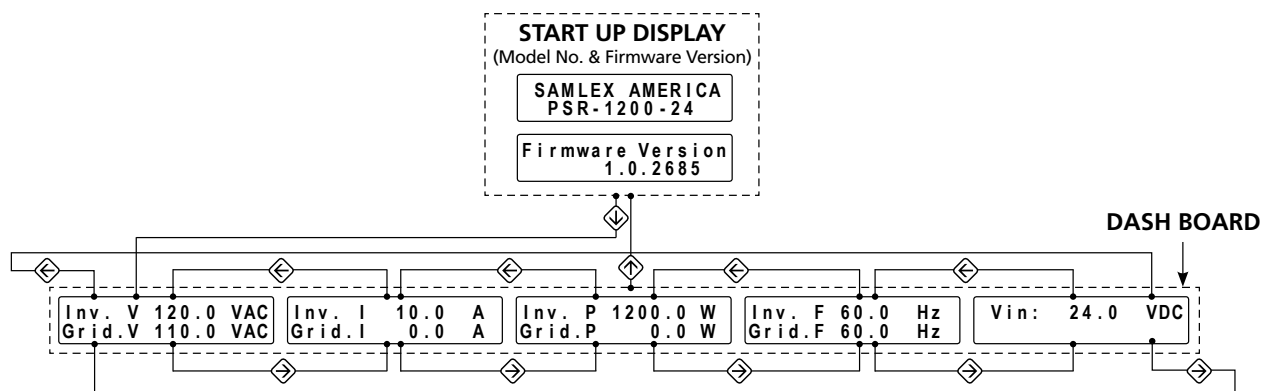
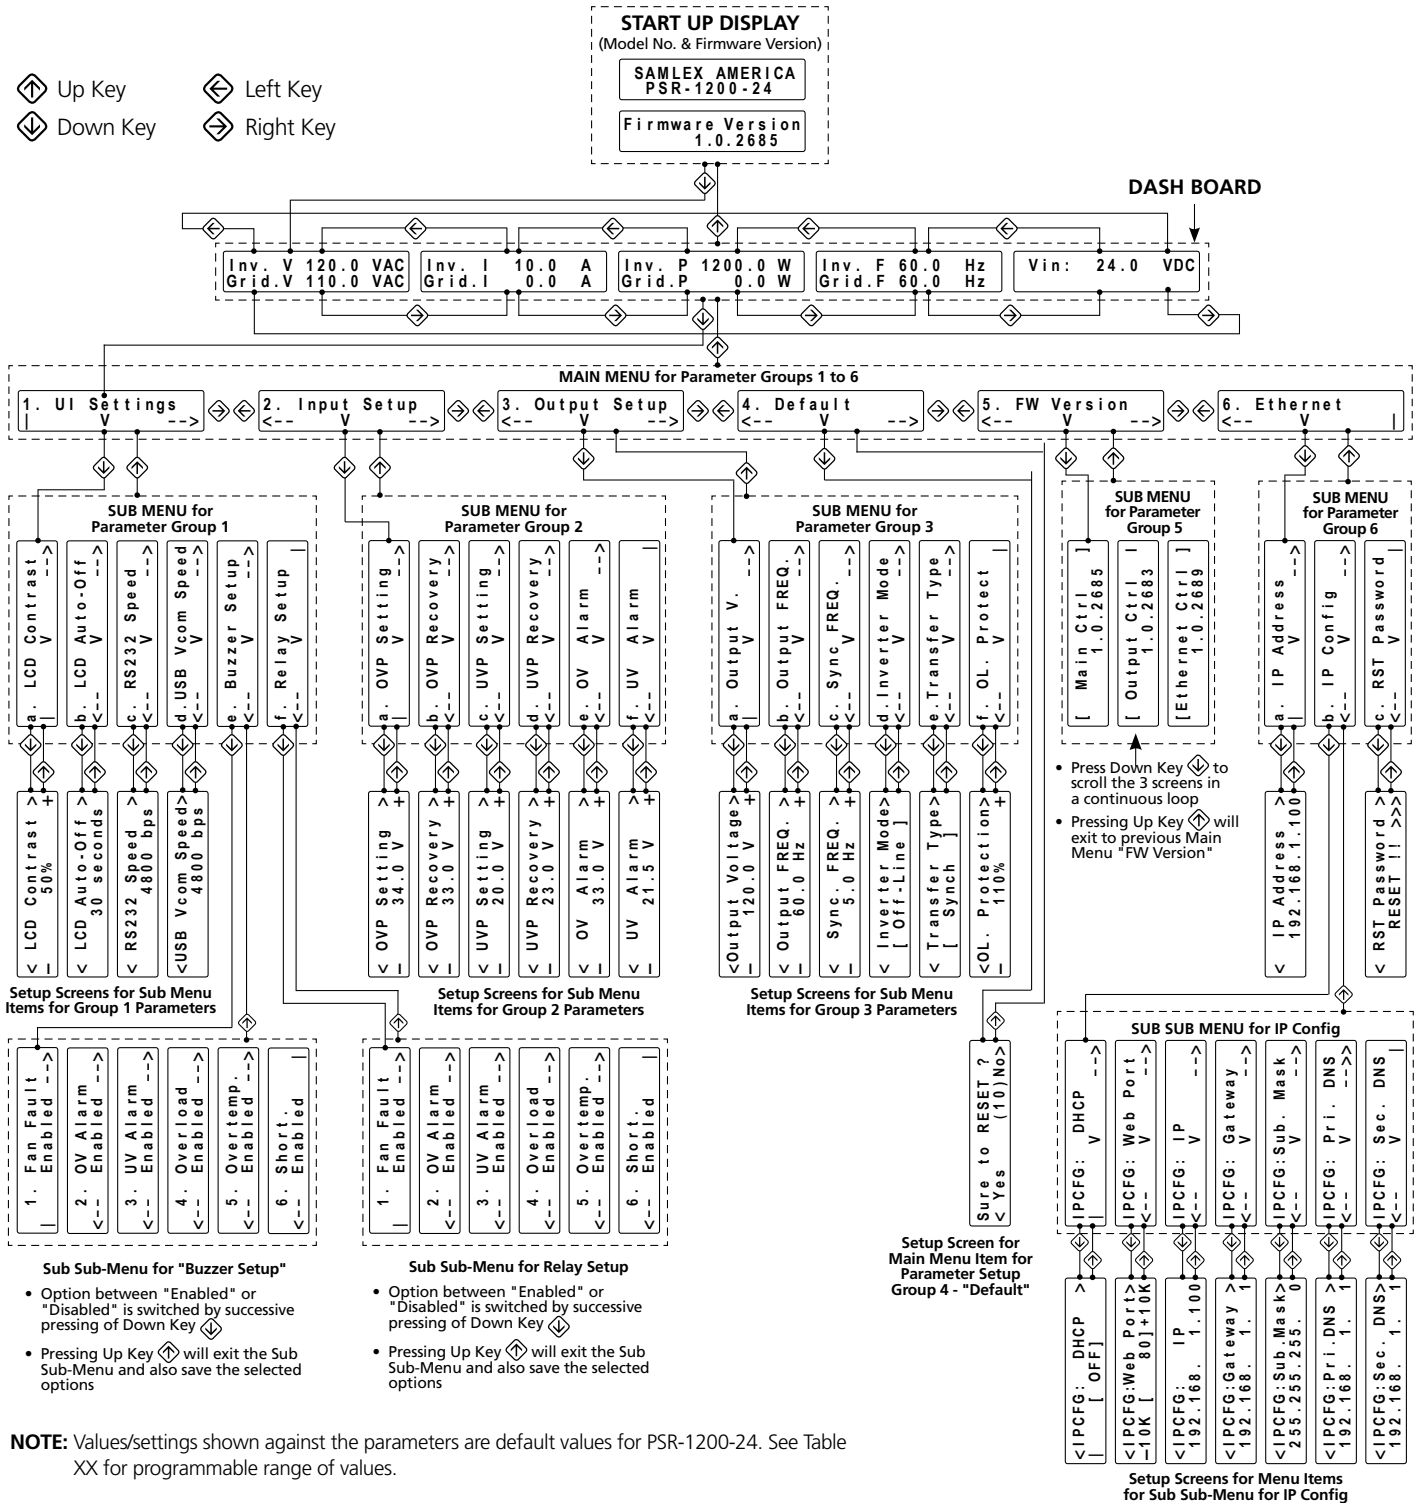

Fig 9.1: Startup Display and Dashboard (extract from Fig 10.1)
Fig 10.1 Menu Map for Programmable Operating Parameters
Refer to Startup Display and Dashboard portions of the Menu Map at Fig 10.1 (extract of these portions is given below at Fig 9.1 for ready reference. The "Startup Display" screens appear when the unit is switched ON (see Section 9.6 for details). The "Dashboard" shows the 5 scrollable screens that provide information on the operating parameters (see Sections 9.7 for details).
9.5.1.1 LCD Auto-Off: Programmable parameter "LCD Auto-Off" has been provided to either keep the LCD display on all the time or to switch off the display after expiry of programmable time period of 20 to 180 sec. For programming details, see Fig 10.1 / Table 10.1 under Main Menu for Parameter Group 1 – "UI Settings" / Sub Menu for Parameter Group 1, Parameter (a) – "LCD Contrast" (Section 10.2.1.1). In the default condition, the LCD Auto-Off function has been disabled and hence, the LCD screen will remain in on condition all the time.
9.5.1.2 LCD Contrast: This parameter can be programmed to control the LCD contrast. Programmable range is 0% to 100%. Default is 50%. For programming details, see Fig 10.1 / Table 10.1 under Main Menu for Parameter Group 1 – "UI Setting" / Sub Menu for Parameter Group 1, Parameter (b) – "Auto-off" (Section 10.2.1.2).
9.5.1.3 Various LCD Screens are available under Startup display and Dash Board for real time visual monitoring of important operating parameters. Refer to the Startup Display and Dash Board portions of the Menu Map at Fig 10.1. Details of LCD display of the operating parameters are explained in the succeeding Sections.
Refer to Startup Display portion of the screens at Fig 9.1 (extracted from Fig 10.1).
Refer to the Dash Board portion of the screens at Fig 9.1 (extracted from Fig 10.1).
The values / settings of various operating parameters can be programmed to suit specific application requirements. Refer to the Menu Map at Fig 10.1 to navigate to the setting screen of the desired parameter. Specifications of the parameters shown in the Menu Map are detailed in Table 10.1.
10.2 SPECIFICATIONS OF PROGRAMMABLE PARAMETERS IN THE MENU MAP AT FIG 10.1
Table 10.1 provides list of programmable parameters shown in the Menu Map at Fig 10.1 along with their specifications i.e. their programmable ranges, setup options and default values.
TABLE 10.1 PROGRAMMABLE PARAMETERS (REFER TO MENU MAP AT FIG 10.1)
TABLE 10.1 PROGRAMMABLE PARAMETERS (REFER TO MENU MAP AT FIG 10.1) (Continued)
10.2 DETAILS OF PROGRAMMABLE PARAMETERS LISTED IN TABLE 10.1 AND IN FIG 10.1
Table 10.1 provides list of programmable parameters, their programmable ranges, setup options and default values. Menu Map at Fig 10.1 shows the path to navigate to the setting screen of the desired parameter. Details of parameters are given in the succeeding Sub-Sections.